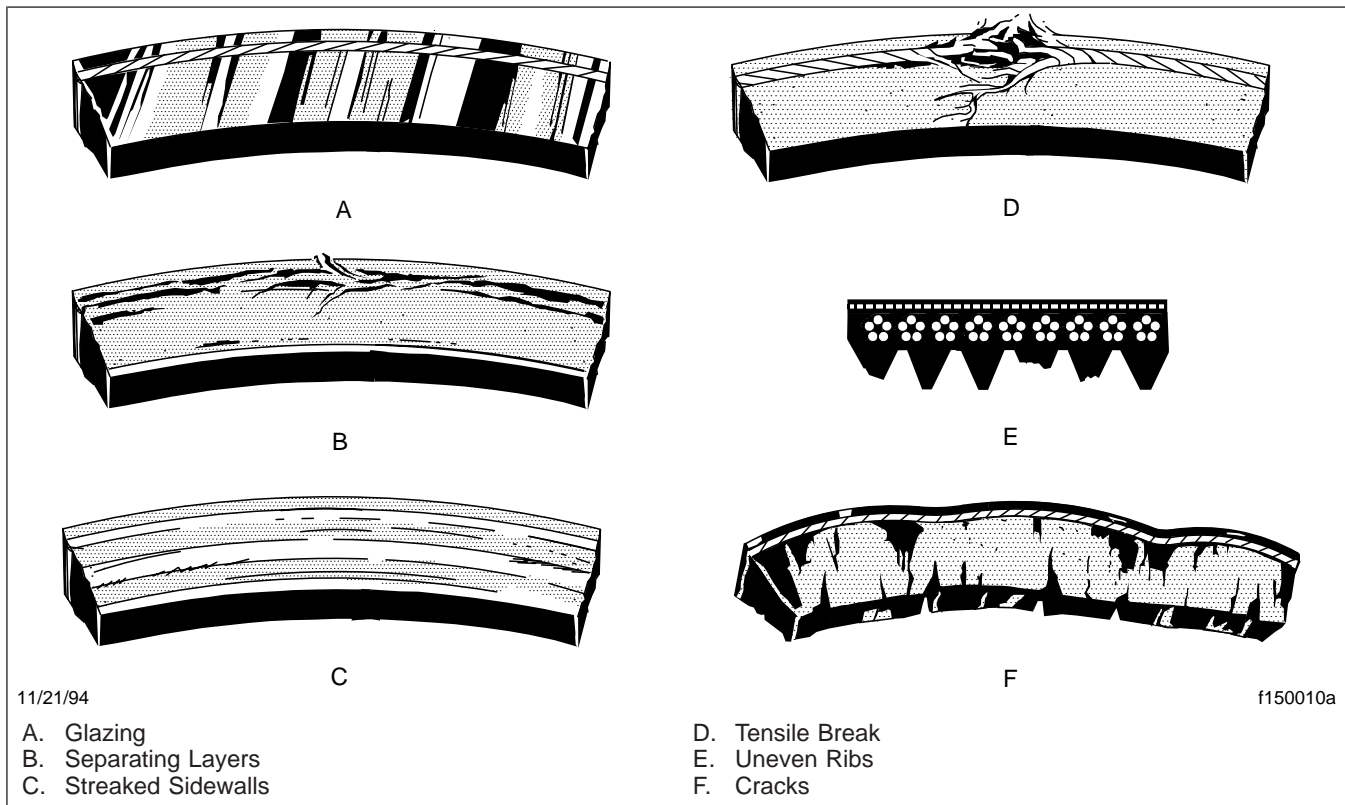

Fig. 5, Drive Belt Replacement Conditions
1. Inspect the belt for glazing. See Fig. 5, Ref. A. Glazing is represented by shiny sidewalls, and is caused by friction created when a loose belt slips in the pulleys. It can also be caused by oil or grease contamination on the pulleys.
2. Check the belt for ply separation. See Fig. 5, Ref. B. Oil, grease, or belt dressing can cause the belt to fall apart in layers. Repair any oil or coolant leaks that are affecting the belts before
3. Check the belt for a jagged or streaked sidewall. See Fig. 5, Ref. C. Jagged or streaked sidewalls are the result of foreign objects, such as sand or gravel in the pulley, or a rough pulley surface.
4. Check for tensile breaks; breaks in the cord body. See Fig. 5, Ref. D. Cuts in a belt are usually caused by foreign objects in the pulley, or by prying or forcing the belt during removal or installation.
5. Check for uneven ribs on serpentine (poly-V) belts. See Fig. 5, Ref. E. Foreign objects in the pulley will erode the undercord ribs, causing the belt to lose its gripping power.
6. Check the drive belts for cracks. See Fig. 5, Ref. F. Small irregular cracks are usually the signs of an old belt.